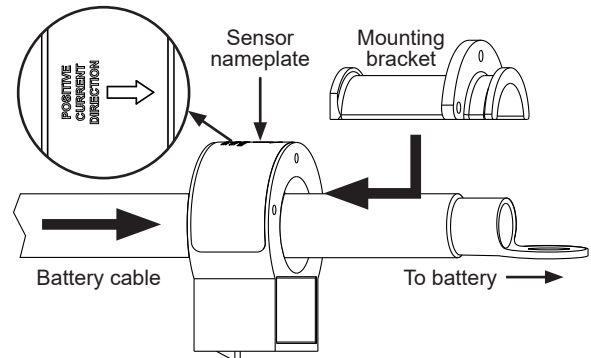

Figure 2: Install Sensor on Battery Cable
- a. Insert battery cable through hole in current sensor. See Figure 2.